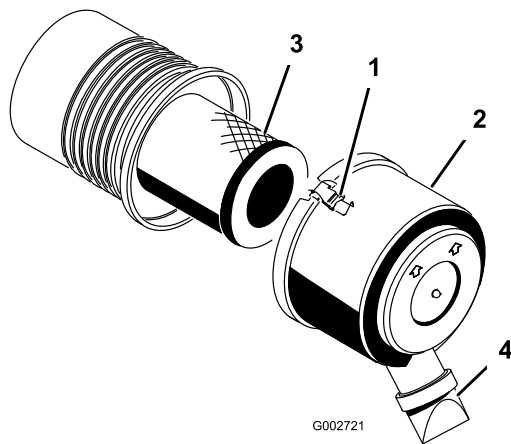

Figure 18
1. Release the latches securing the air cleaner cover to the air cleaner body (Figure 18).